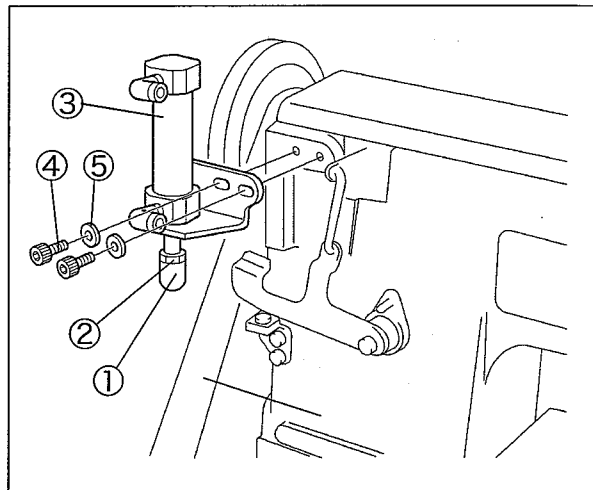

Fig. 1
1. Loosen the lock nut ② of the cylinder rod chip ① fully, and then tighten the cylinder rod chip ① fully.
2. Install the air cylinder, C. set ③ to the back of the sewing machine with the screws ④ and washers ⑤ (2 pcs. for each) as Fig. 1.